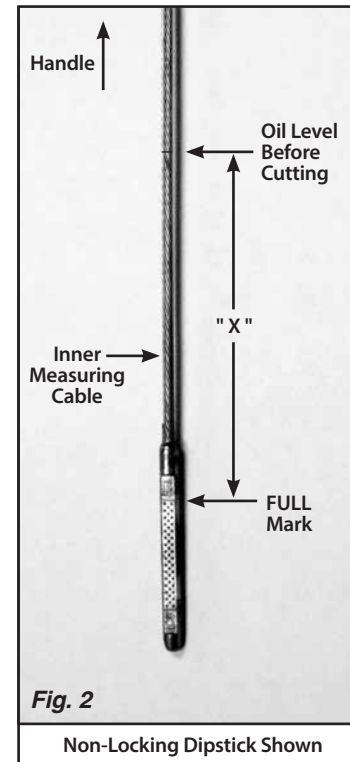

Fig. 2
Step 3: Remove the handle and inner measuring cable from the dipstick tube assembly. Measure the distance from the top of the fluid on the inner measuring cable to the "FULL" mark on the inner measuring cable. Write that measurement down ("X"). **Fig. 2**